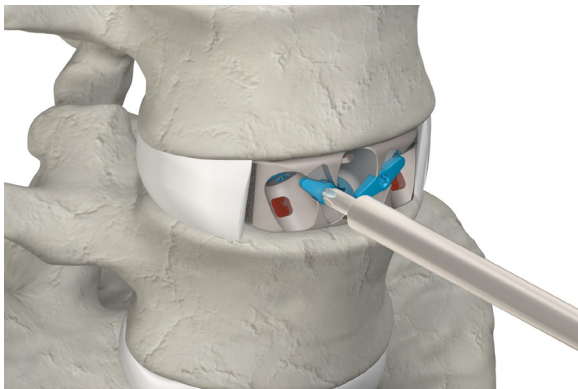
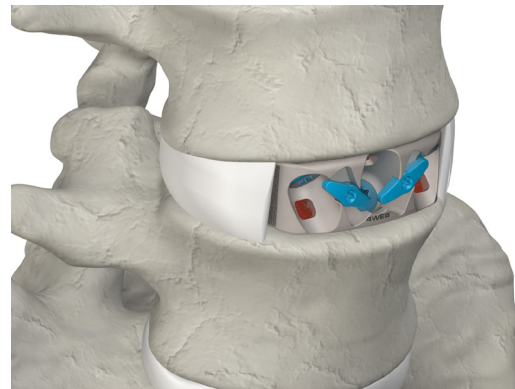

Figure 13
Figure 14
- ▲ Connect the Anti Back Out Plate Driver to the Torque Limiting Handle. Use the Anti Back Out Plate Driver to rotate the two Locking Plates approximately 90° (Fig. 13). The wings of the Locking Plate will stop against the recess on the anterior face of the interbody (Fig. 14).